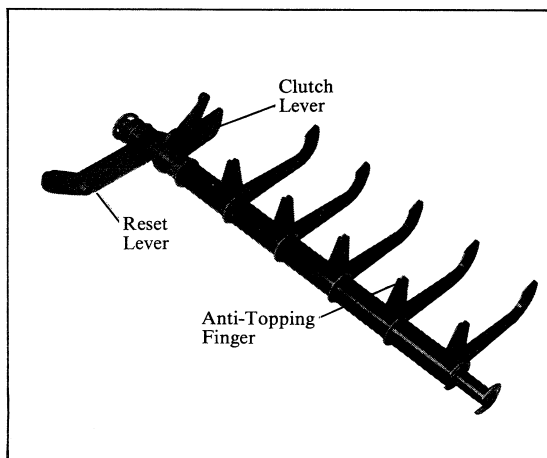

Figure 14. Anti-Topping Finger Group.
3. Anti-Topping Finger Group Parts Replacement. See Figure 14. Individual anti-topping fingers, reset lever and clutch lever may be replaced as required.
- Install parts, retaining rings and washers in the sequence shown in Figure 14. Be sure to install parts so they are in the proper direction. Check end play per Figure 28.